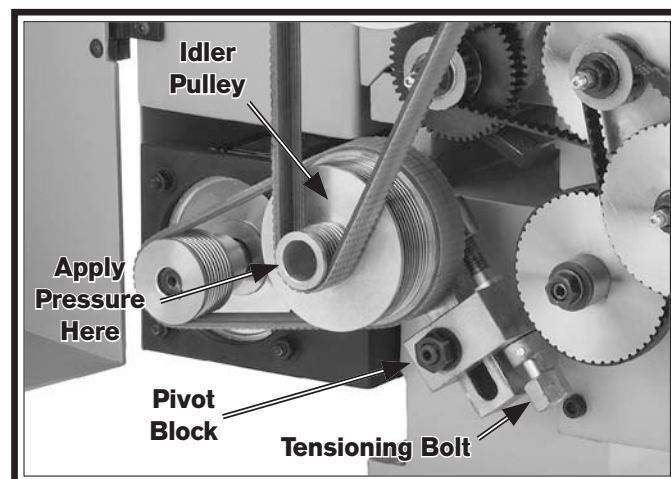

Figure 92. Drive belt tensioning controls.
2. Open the end cover, then loosen the pivot block hex nut (see **Figure 92**). This will allow the tensioning bolt to change the position of the idler pulley in the next step.
3. Apply moderate pressure on the idler pulley (see **Figure 92**) toward the front of the lathe while turning the tensioning bolt counterclockwise to lower the idler pulley and increase belt tension.